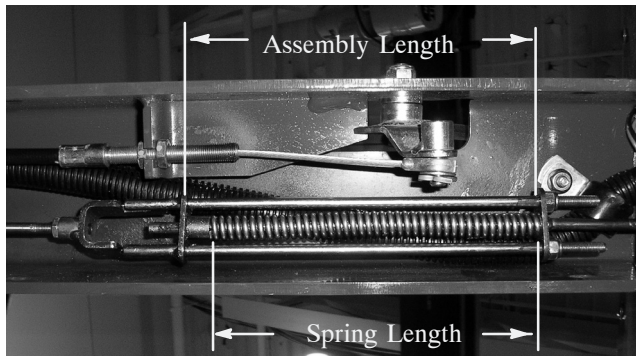

Figure 16
- Inspect override assembly length (Fig. 16). Dimension of "Assembly Length" to be 7.25" – 7.38" (184 – 187 mm). The "Spring Length" is then 6.75" – 6.88" (171 – 175 mm).